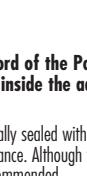

Fig.1
E) To avoid the possibility of the appliance plug or receptacle getting wet, position the appliance to one side of a wall-mounted receptacle and prevent water from dripping onto the receptacle or plug. A "drip loop" (Fig. 1) should be arranged for the cord connecting the appliance to the receptacle.